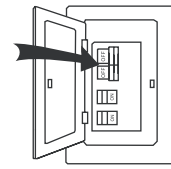

Fig. 1
1. Turn OFF the electric circuit at the main fuse or circuit breaker box (Fig. 1).